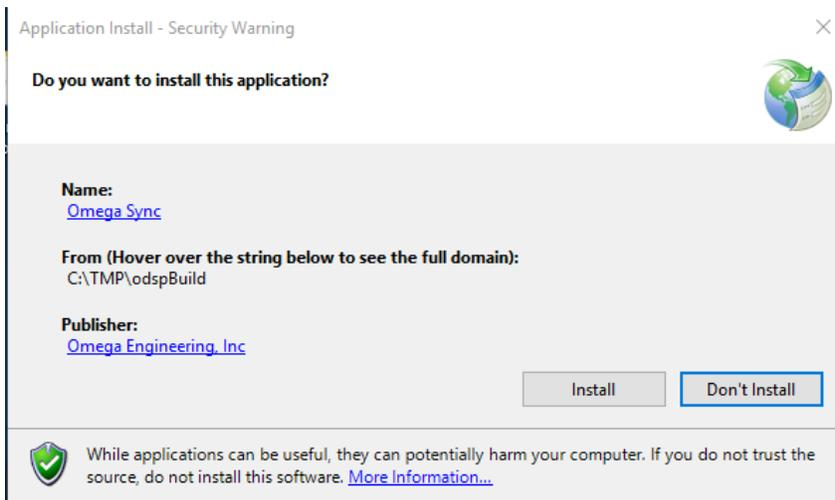

Figure 2. ClickOnce Installer
3. Users will click the setup.exe to install and launch Omega Sync the first time (**Figure 2**).